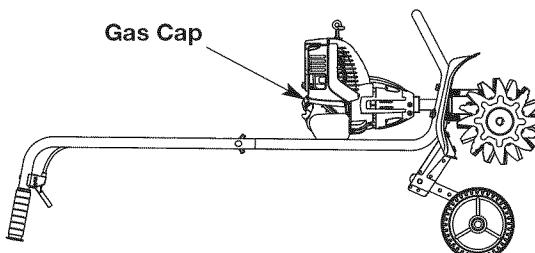

Fig. 9
NOTE: Fill or add gas to the tank only when the mini tiller is in a horizontal position (Fig. 9).
2. Place the unit in a horizontal position to get a proper oil level reading (Fig. 9).